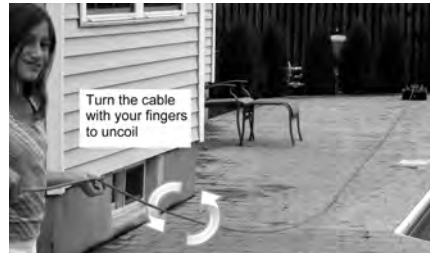

FIGURE 11
- Hold the black collar at the plug end and gently lift the cable off the ground (FIGURE 11)